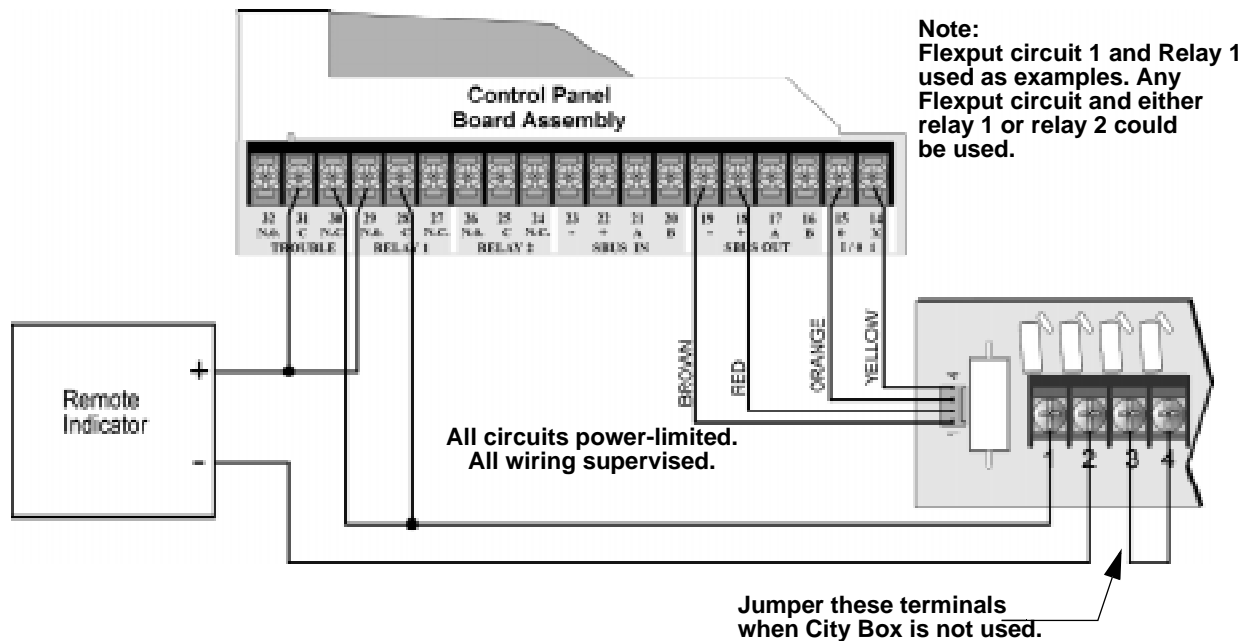

Figure 4-43 Polarity Reversal Connection
2. Wire the 5220 to the control panel using the four-wire pigtail provided as shown in Figure 4-43. This diagram also shows how to connect the 5220 to the remote indicator. Do not install an EOL resistor in the terminals of the Flexput circuit used for this application.